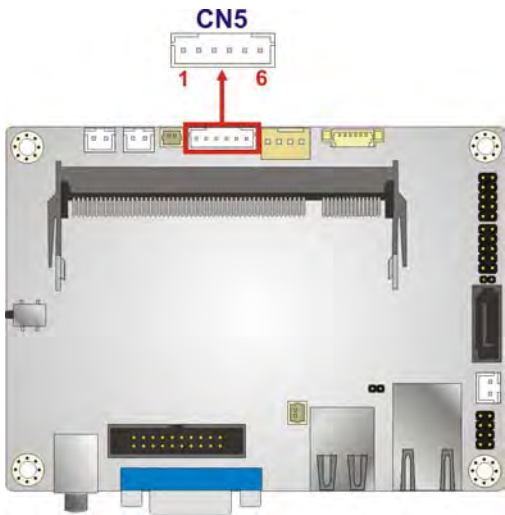

Figure 4-12: Front Panel Connector Location
- CN Location: See **Figure 4-12**